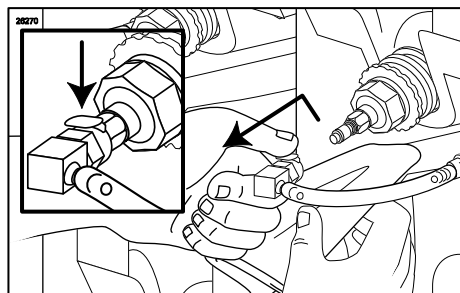

Figure 59
- Using a single service towel under the Syrup Bag Connector, disconnect the Connector from the Syrup Bag Adapter by pressing down on the lever and pulling it away from the Syrup Bag Adapter. (See Figure 59.)